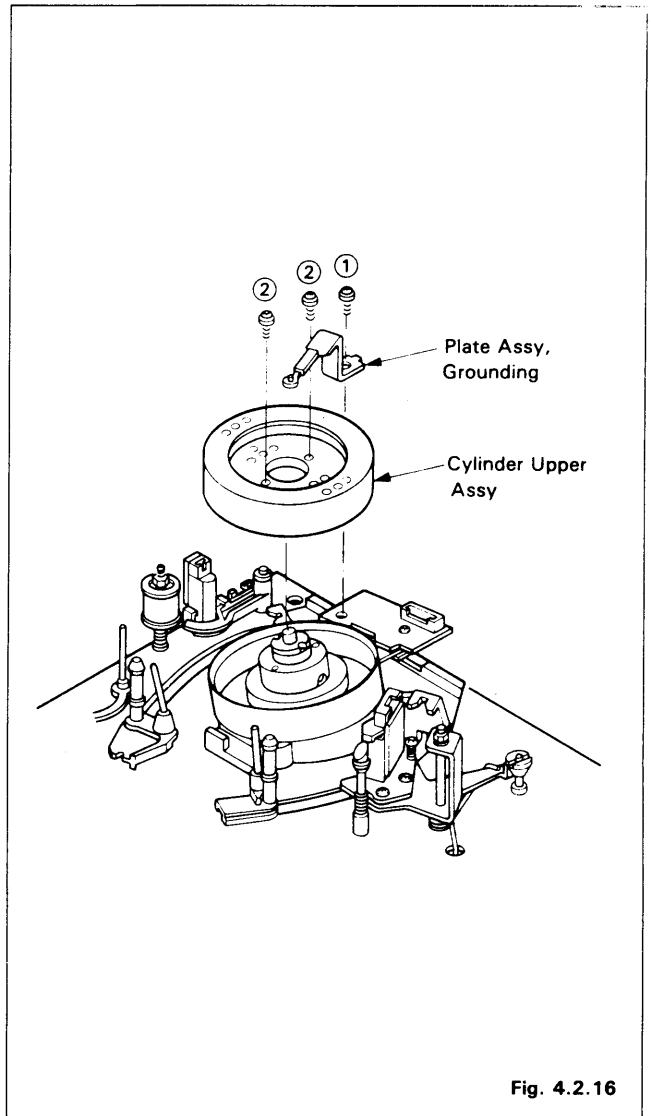

Fig. 4.2.16
- When installing the cylinder, tighten two screws ② uniformly to obtain a 5 kg-cm to 6 kg-cm torque value.
- Prior to reassembling, clean up the contact surface on the upper cylinder with cleaning fluid. (Refer to Fig. 4.2.16)
- After reassembling the cylinder, clean up the tape transport area with cleaning fluid and chamois. (Refer to Fig. 4.2.16)